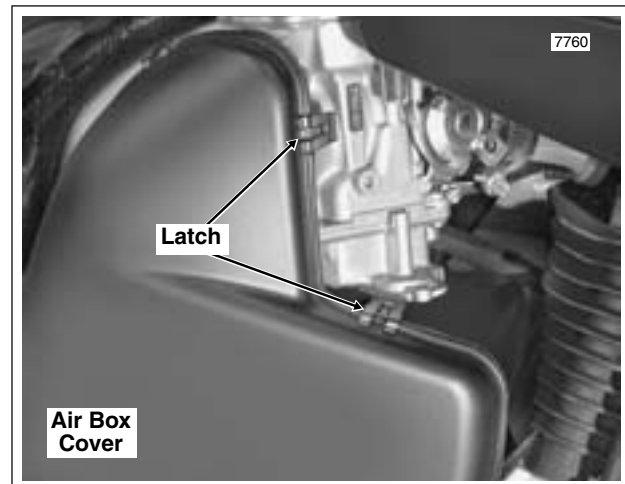

Figure 1-35. Release Air Box Cover Latches
1. Release five latches around perimeter of air box cover. See Figure 1-35.